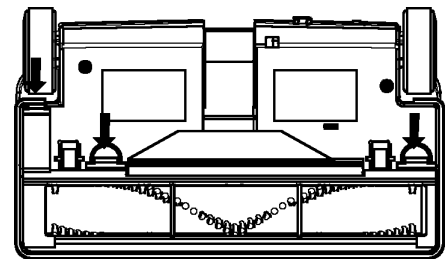

Figure 6
2. Press the 3 snap release clips (as shown in Figure 6) and remove brush cover.